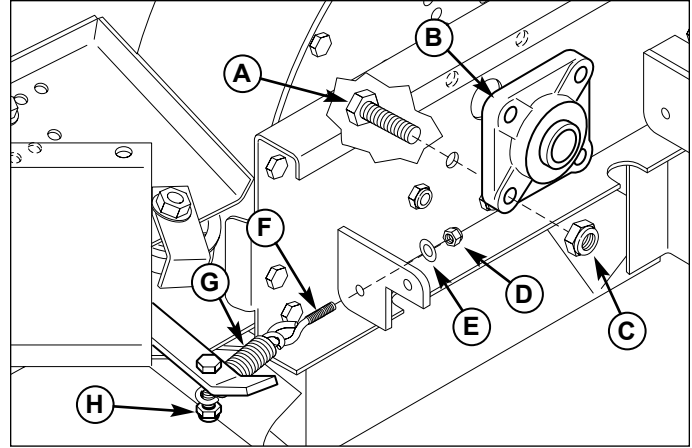

Figure 11. Install Bearing & Eyebolt
6. Install the bearing (B, Figure 11) on the shaft with the grease fitting pointing towards the discharge of the blower. Secure with the 7/16-14 x 1-1/2" bolts (A) and 7/16-14 nylon lock nuts (C) as shown. Tighten the setscrew in the collar of the bearing.
7. Install the spring (G) on the bolt of the idler arm and secure with a 5/16-18 nylon lock nut (H). Only tighten the nut until the threads come through the nylon. Do not clamp spring.
8. Hook the spring on the eyebolt (F). Install the eyebolt and 1/4" washer (E) on the blower mount plate and secure with the nylon nut (D) as shown. The nylon nut (D) must be fully tightened so the eyebolt is drawn up tight against the mount. The eyebolt must be vertical.